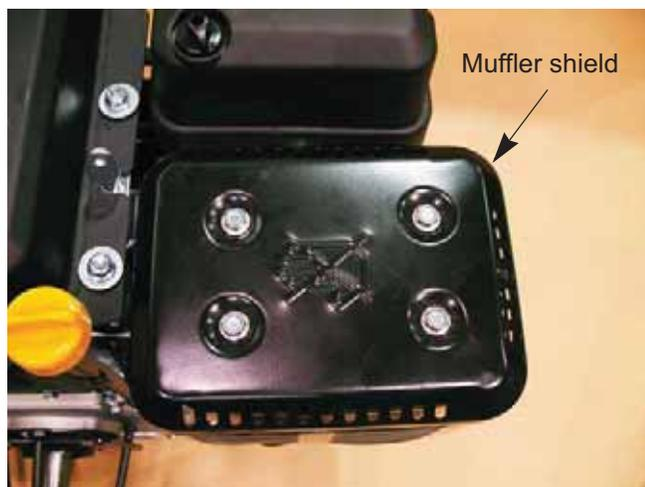

Figure 8.2
1. Remove the four screws that retain the muffler shield using a 10mm wrench and lift it off of the engine. See Figure 8.2.